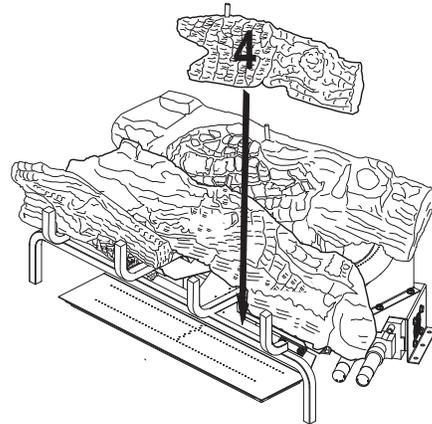

Figure 25 - Installing Log # 4
4. Place the front right log (#4) onto the base assembly between the middle log (#2) and the grate. The back of the front right log (#4) will rest against the front of the middle log (#2). The notch in the end of the front right log (#4) will fit around the grate bar. See **Figure 25**.